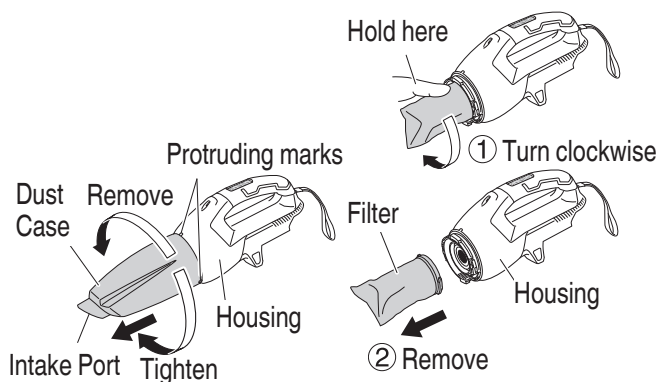

Fig. 8
- (1) Remove the dust case (**Fig. 8**)